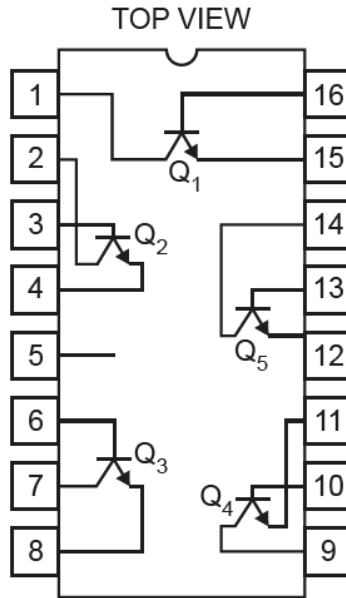

Fig. 2
6 (a) Fig. 2 shows a linear integrated circuit (IC).
(i) State the name of the component shown at positions Q₁ to Q₅ in Fig. 2.
(ii) State the name that is given to the group of components arranged as shown in Fig. 2.